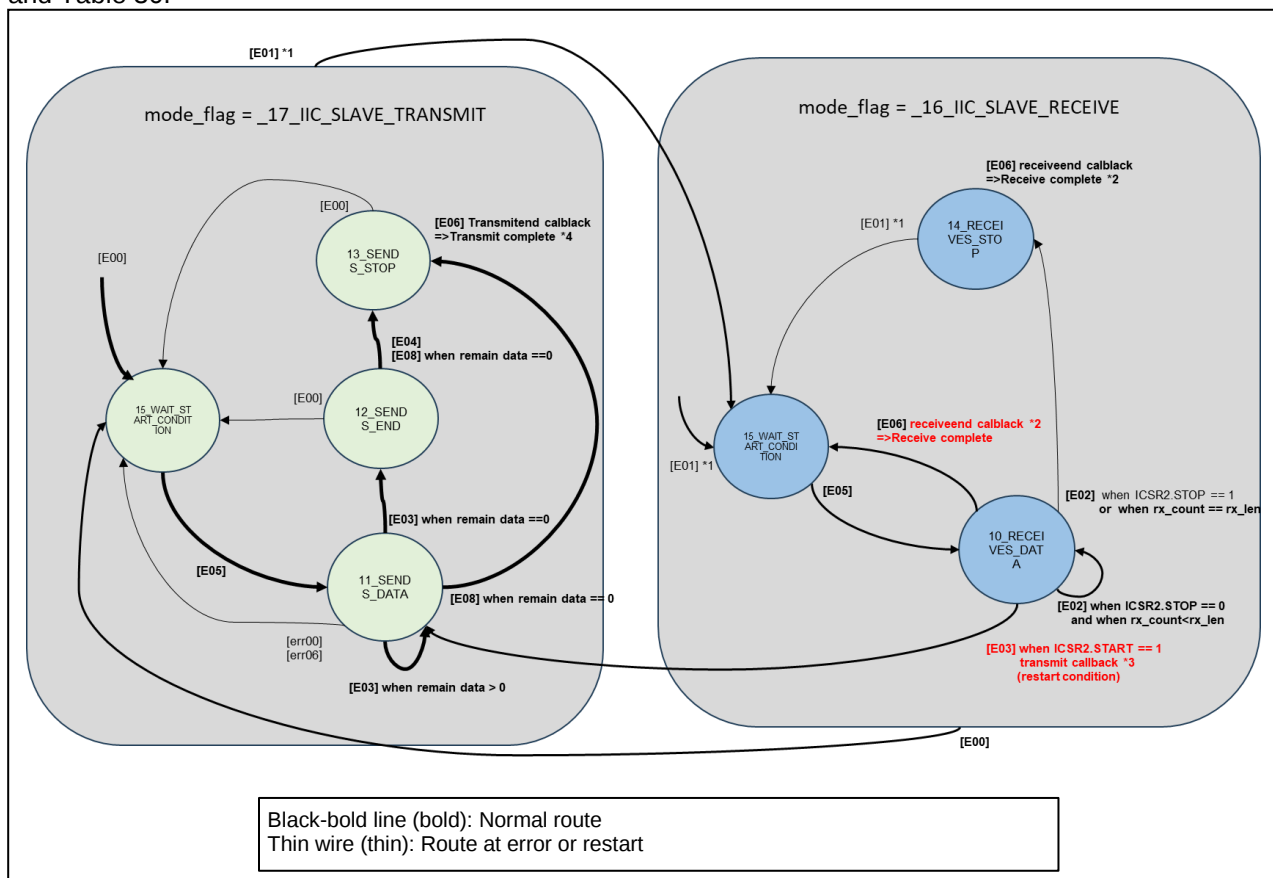

Figure 42 PMBus Slave Driver Layer status transitions
The state transition of the PMBus Slave Driver Layer is divided into the transmit operation part and the receive operation part to PMBus Master, and the specified data is transmitted and received by the specified number of bytes. PMBus Slave Driver Layer status transitions are shown in Figure 42, Figure 43, Table 29 and Table 30.
- Light green indicates state transitions when mode_flag=17 in Figure 42.
- Light blue indicates state transitions when mode_flag=16 in Figure 42.